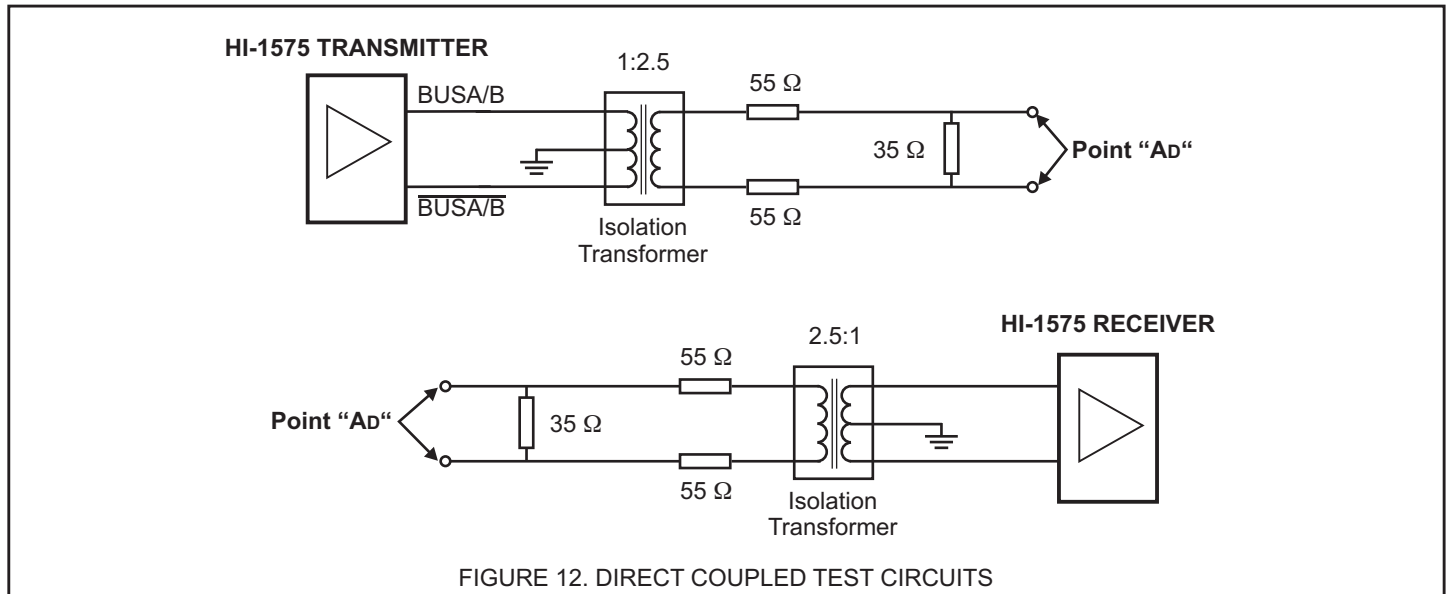

FIGURE 12. DIRECT COUPLED TEST CIRCUITS
**RECEIVER (Measured at Point "Ad" in Figure 12 unless otherwise specified)**
**TRANSMITTER(Measured at Point "Ad" in Figure 12 unless otherwise specified)**
TRANSMITTER (Measured at Point "Ad" in Figure 12)